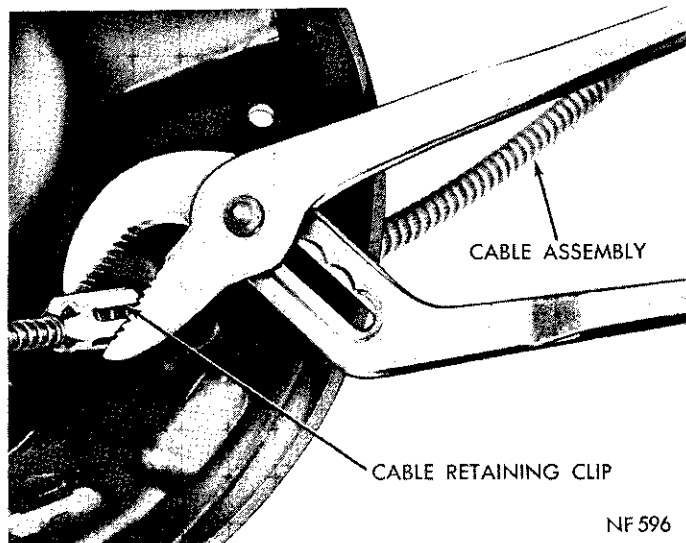

Fig. 2—Removing Brake Cable from Support
(5) Using a suitable tool compress three flared legs of cable retainer and pull brake cable out of support (Fig. 2).
(6) Remove brake support from rear axle housing.